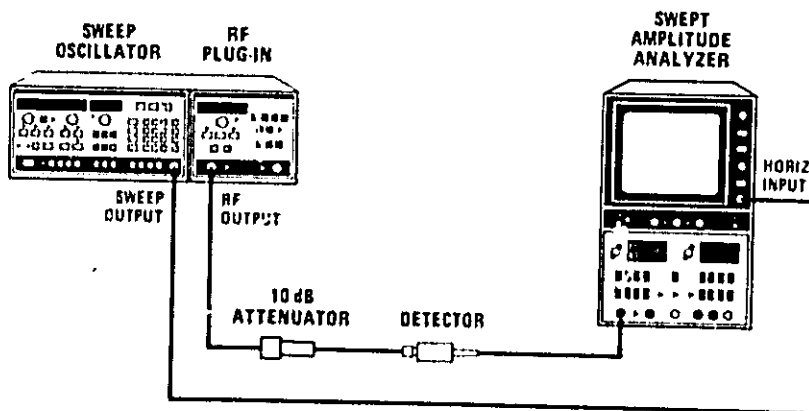

Figure 5-27. Power Sweep Test Setup
1. Connect equipment as shown in Figure 5-27. Select 8350A  MOD .